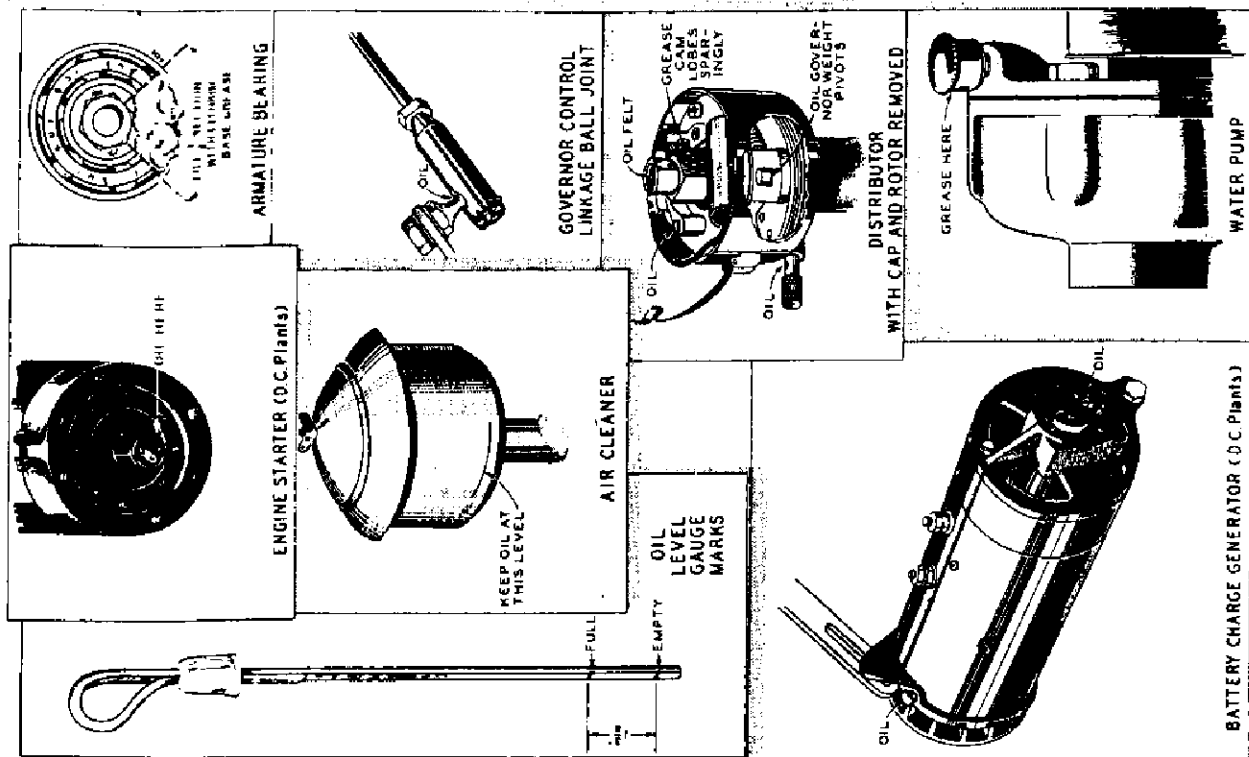

FIG. 4 - LUBRICATION
**LUBRICATION.** - Refer to Fig. 4. Use approximately 3 quarts (U.S. Measure) of a good quality heavy duty (detergent) type oil to fill the crankcase to the high level mark on the bayonet type gauge. Approximately 1 quart of oil remained in the oil filter when the crankcase was drained at the factory. Do not use an oil heavier than SAE number 20 in a plant being put into service the first time. After the first oil change, use an oil of the proper SAE number as indicated in the following table, according to the lowest temperature to which the plant will be exposed when not running. Temperatures indicated are for conditions where the plant will be standing idle long enough to cool to the surrounding temperature.